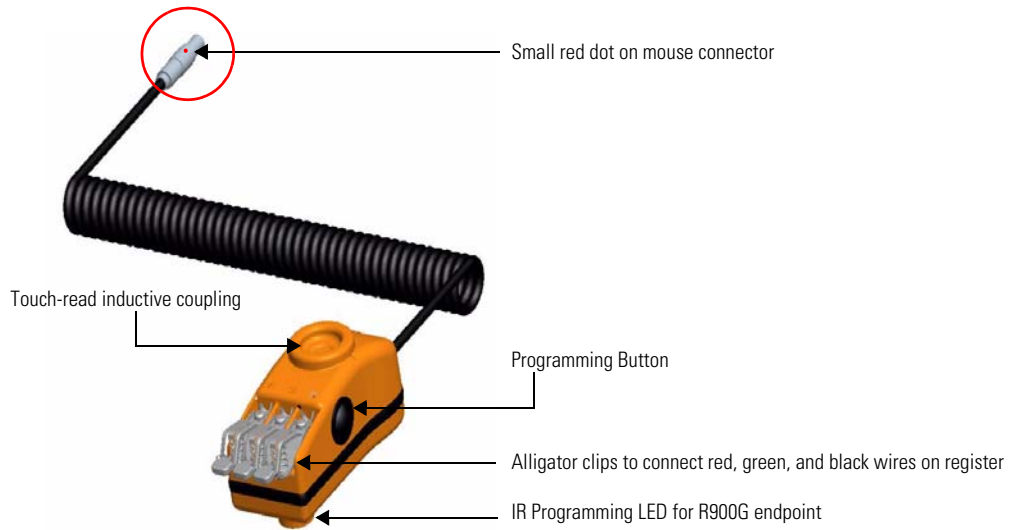

Figure 2.1 Field Programmer Mouse
- 1 Locate the small red dot at the end of the mouse connector cable. See Figure 2.1.